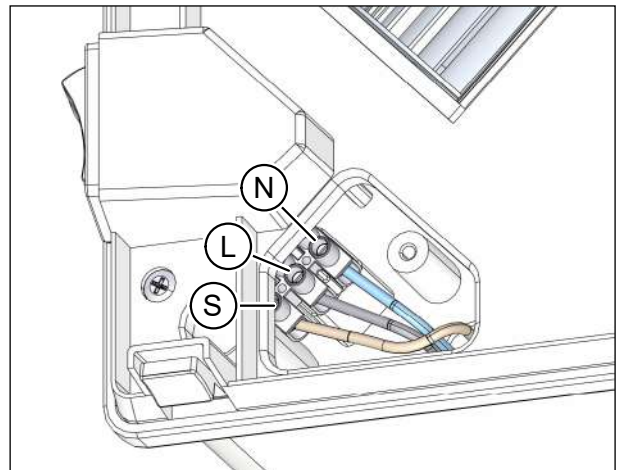

Fig. 43: Connecting the mains cable and control cable (if used)
- No protective earth (PE) conductor is required.
- ▶ Connect the neutral conductor N (item N in Fig. 43) and the outer conductor L (item L in Fig. 43) to the screw terminal in the ventilation unit.
- ▶ If used, connect the wire for the external control input (item S in Fig. 43) to the screw terminal.